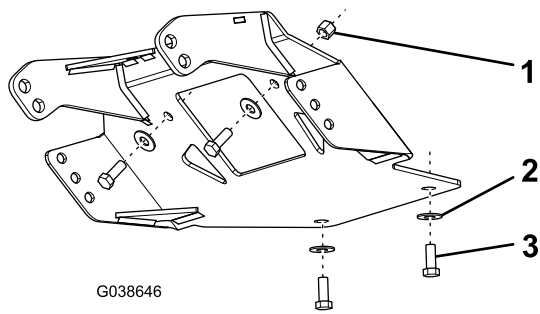

Figure 3
8. Secure the plow skid plate to the vehicle frame using 4 bolts (3/8 inch), 4 washers (3/8 inch), and 2 nuts (3/8 inch), and leave the fasteners finger-tight (Figure 3).